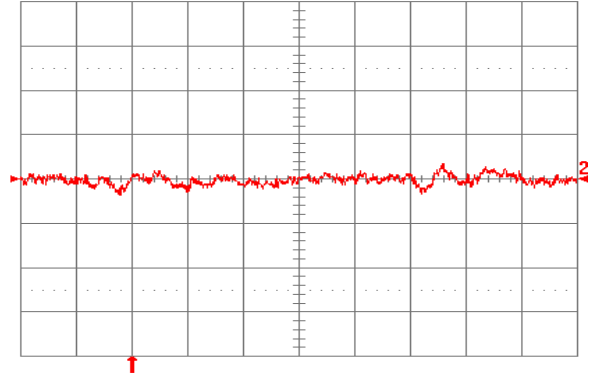

**Fig. 1.2V.14:** Test Setup for measuring input reflected ripple currents,  $i_c$  and  $i_s$ .
**Fig. 1.2V.1:** Available load current vs. ambient air temperature and airflow rates for SQ48T15012 converter with D height pins mounted vertically with  $V_{in} = 48\text{ V}$ , air flowing from pin 3 to pin 1, and maximum FET temperature  $\leq 120^\circ\text{C}$ .
**Fig. 1.2V.2:** Available load current vs. ambient air temperature and airflow rates for SQ48T15012 converter with D height pins mounted horizontally with  $V_{in} = 48\text{ V}$ , air flowing from pin 3 to pin 1, and maximum FET temperature  $\leq 120^\circ\text{C}$ .
**Fig. 1.2V.3:** Available load current vs. ambient air temperature and airflow rates for SQ48S15012 converter mounted vertically with  $V_{in} = 48$  V, air flowing from pin 3 to pin 1, and maximum FET temperature  $\leq 120$  °C.
**Fig. 1.2V.4:** Available load current vs. ambient air temperature and airflow rates for SQ48S15012 converter mounted horizontally with  $V_{in} = 48$  V, air flowing from pin 3 to pin 1, and maximum FET temperature  $\leq 120$  °C.
**Fig. 1.2V.5:** Efficiency vs. load current and input voltage for SQ48T/S15012 converter mounted vertically with air flowing from pin 3 to pin 1 at a rate of 300 LFM (1.5 m/s) and  $T_a = 25$  °C.
**Fig. 1.2V.6:** Efficiency vs. load current and ambient temperature for SQ48T/S15012 converter mounted vertically with  $V_{in} = 48$  V and air flowing from pin 3 to pin 1 at a rate of 200 LFM (1.0 m/s).
**Fig. 1.2V.7:** Power dissipation vs. load current and input voltage for SQ48T/S15012 converter mounted vertically with air flowing from pin 3 to pin 1 at a rate of 300 LFM (1.5 m/s) and  $T_a = 25^\circ\text{C}$ .
**Fig. 1.2V.8:** Power dissipation vs. load current and ambient temperature for SQ48T/S15012 converter mounted vertically with  $V_{in} = 48\text{ V}$  and air flowing from pin 3 to pin 1 at a rate of 200 LFM (1.0 m/s).
**Fig. 1.2V.9:** Turn-on transient at full rated load current (resistive) with no output capacitor at  $V_{in} = 48\text{ V}$ , triggered via ON/OFF pin. Top trace: ON/OFF signal (5 V/div.). Bottom trace: output voltage (0.5 V/div.). Time scale: 2 ms/div.
**Fig. 1.2V.10:** Turn-on transient at full rated load current (resistive) plus 10,000  $\mu\text{F}$  at  $V_{in} = 48\text{ V}$ , triggered via ON/OFF pin. Top trace: ON/OFF signal (5 V/div.). Bottom trace: output voltage (0.5 V/div.). Time scale: 2 ms/div.
**Fig. 1.2V.11:** Output voltage response to load current step-change (3.75 A – 7.5 A – 3.75 A) at  $V_{in} = 48$  V. Top trace: output voltage (100 mV/div.). Bottom trace: load current (5 A/div.). Current slew rate: 0.1 A/μs.  $C_o = 1$  μF ceramic. Time scale: 0.2 ms/div.
**Fig. 1.2V.12:** Output voltage response to load current step-change (3.75 A – 7.5 A – 3.75 A) at  $V_{in} = 48$  V. Top trace: output voltage (100 mV/div.). Bottom trace: load current (5 A/div.). Current slew rate: 5 A/μs.  $C_o = 450$  μF tantalum + 1 μF ceramic. Time scale: 0.2 ms/div.
**Fig. 1.2V.13:** Output voltage ripple (20 mV/div.) at full rated load current into a resistive load with  $C_o = 10$  μF tantalum + 1 μF ceramic and  $V_{in} = 48$  V. Time scale: 1 μs/div.
**Fig. 1.2V.15:** Input reflected ripple current,  $i_c$  (100 mA/div.), measured at input terminals at full rated load current and  $V_{in} = 48$  V. Refer to Fig. 1.2V.14 for test setup. Time scale: 1  $\mu$ s/div.
**Fig. 1.2V.16:** Input reflected ripple current,  $i_s$  (10 mA/div.), measured through 10  $\mu$ H at the source at full rated load current and  $V_{in} = 48$  V. Refer to Fig. 1.2V.14 for test setup. Time scale: 1  $\mu$ s/div.
**Fig. 1.2V.17:** Output voltage vs. load current showing current limit point and converter shutdown point. Input voltage has almost no effect on current limit characteristic.
**Fig. 1.2V.18:** Load current (top trace, 20 A/div., 20 ms/div.) into a 10 m $\Omega$  short circuit during restart, at  $V_{in} = 48$  V. Bottom trace (20 A/div., 1 ms/div.) is an expansion of the on-time portion of the top trace.